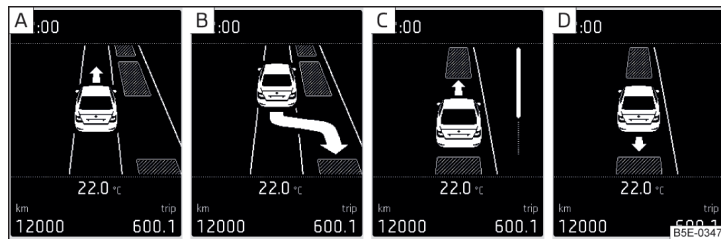

Fig. 156 Display
Display » Fig. 156
If the system finds a parking space, then this parking space is displayed » Fig. 156 - [A].
- Continue driving forwards until the display appears » Fig. 156 - [B].
- If the arrow flashes forward in the display » Fig. 156 - [C], then select first gear or place the gear selector to position **D**.
- If the backwards arrow is flashing in the display » Fig. 156 - [D], select reverse gear again or move the selector lever into position **R**.